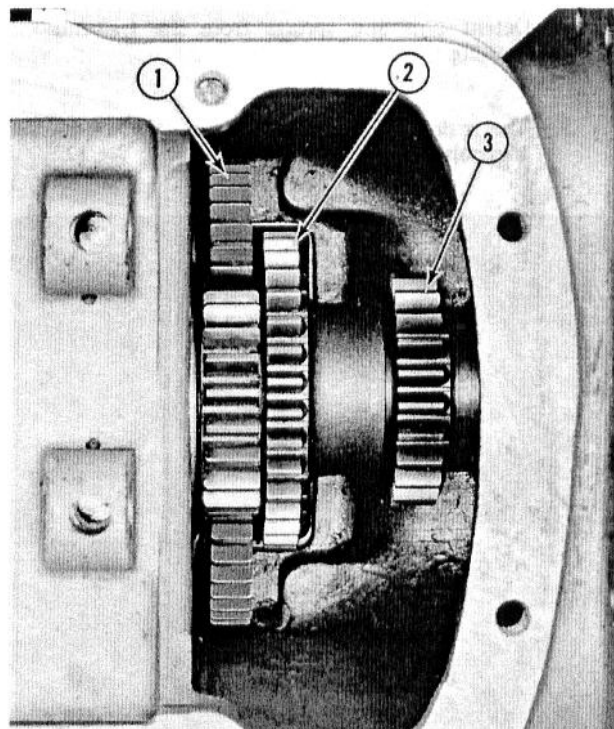

Fig. 63 — Lower Shaft and Gears Installed
1. With the lower shaft front bearing in place, position the three gears in the bottom of the transmission. Refer to Fig. 63 and proceed as follows: